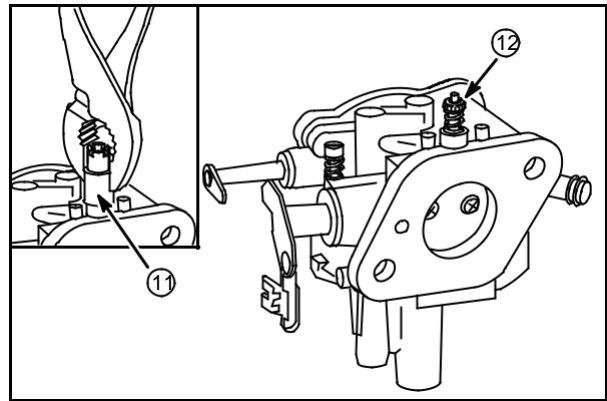

Fig. 27
Use a pliers to remove the idle mixture screw adjustment limiter cap (11) if equipped, Fig. 27.
8. Remove the idle mixture screw (12).